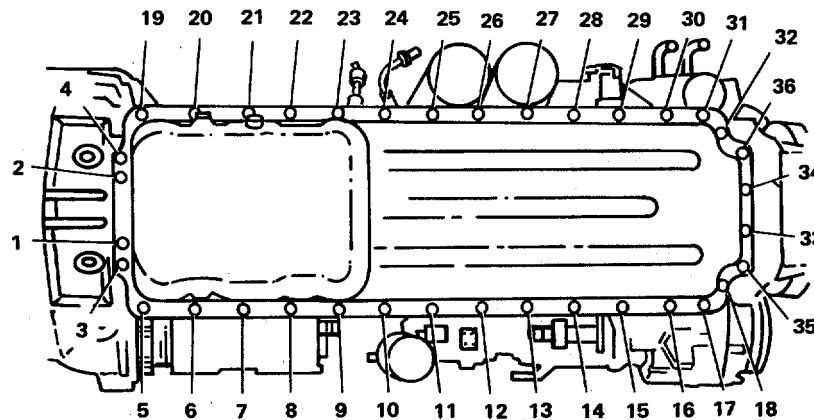

FIGURE 2-61. Oil Pan Capscrews Torque Sequence.
- (2) Tighten two 7/16 inch capscrews on each side of the oil pan flange halfway between the front and the rear of the oil pan.
- (3) Remove the capscrews that were installed in step c.(l) of this procedure. This is necessary to provide the clearance to perform the following step.
- (4) Install and tighten four 5/16 inch capscrews in the rear of the oil pan
- (5) Install and tighten 28 7/16 inch capscrews in the remaining oil pan capscrew holes.
- (6) Torque the 5/16 inch capscrews to 20 ft-lb and the 7/16 inch capscrews to 50 ft-lb in the sequence shown in FIGURE 2-61 .